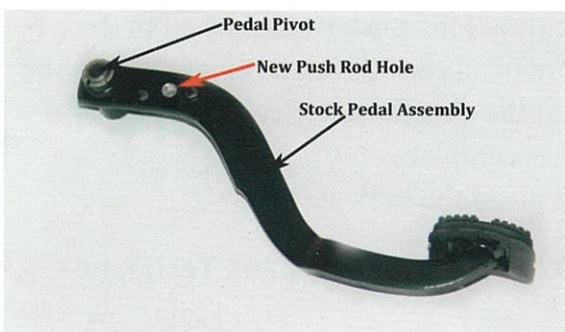
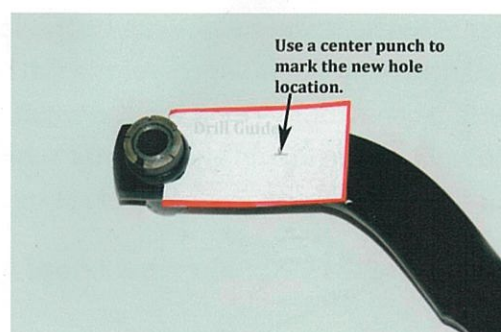

Figure 3
Figure 4
- 4) The clutch pedal must be drilled to relocate the position of the push rod. Figure 3. Using the supplied plastic guide, place the guide on the left side of the pedal. Fig 4 Punch the pedal at the indicated location and drill a 3/8" hole through the pedal. Deburr the new hole, lube the components and reassemble the pedals to the upper pedal box securing with the bolt and nut removed in step 3.
- 5) Both pedals should now be securely mounted and travel through their complete arc. Be sure to install the rubber pedal covers at this time. See Fig 3